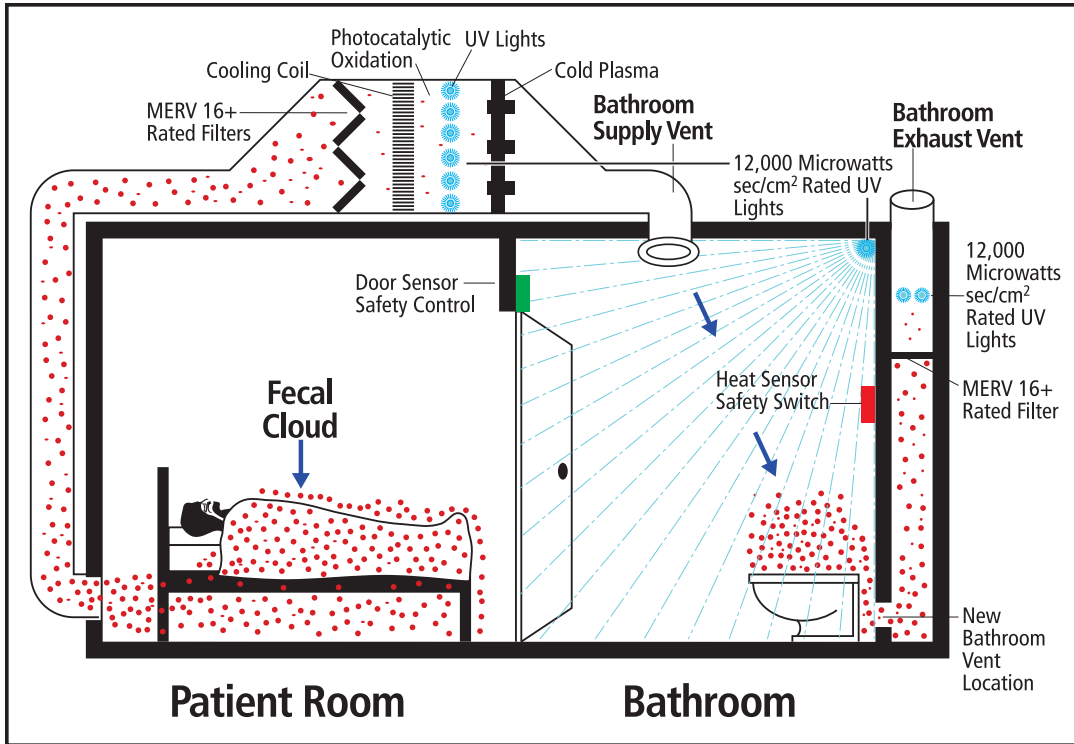

FIGURE 2. Caption to come.
- **Ventilate from the top down.** (Figure 2) Bathroom supply vents must be at the ceiling, and return vents should be behind the toilet and below the seat level.
- **Sterilize/kill/capture (“clean”) airborne germs.** Bathroom air must be cleaned before it is exhausted outdoors, to prevent airborne virions and bacteria from re-entering through the building’s fresh air ducts to infect others. All outside and supply air must be totally cleaned before it is circulated indoors (Figure 2). Your weapons of choice are: